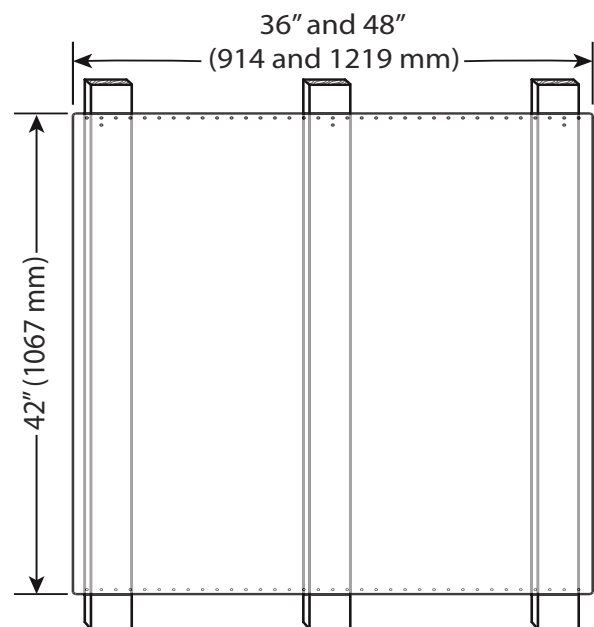

Figure 14: Backsplash Installation
3. Per each wall stud, use (2) 1" (25.4 mm) Phillips head screws to secure both the top and bottom of the Backsplash (see *Figure 14*). Space screws evenly across top and bottom of Backsplash.